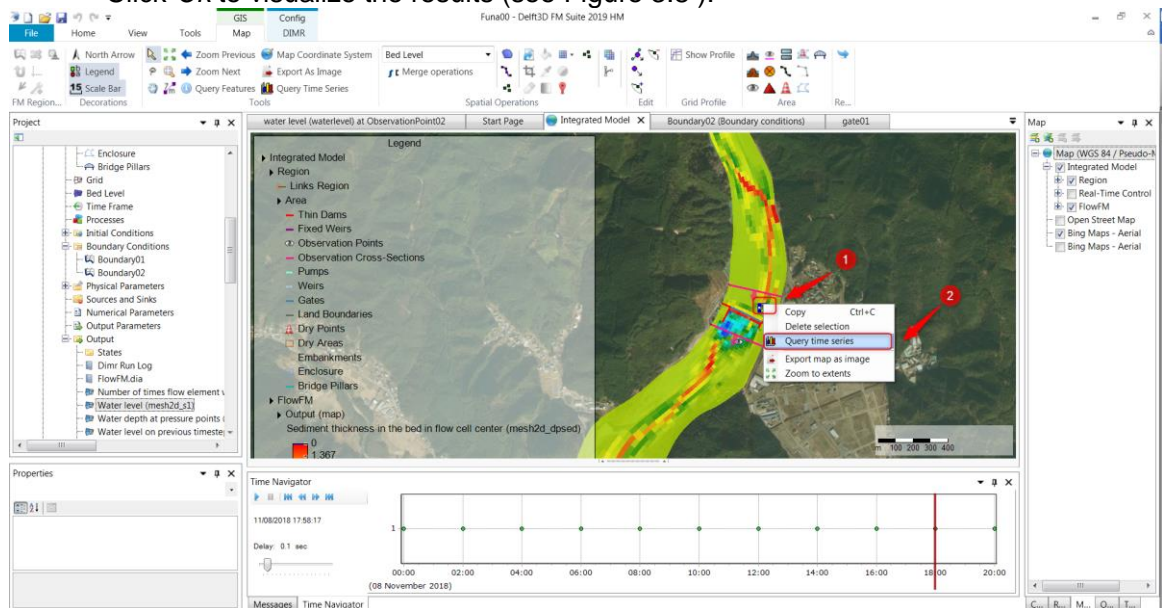

Figure 3.6 History file: check the water level upstream the dam (step A: select the observation point)
- Selecting the observation point and then the “Query time series” (see Figure 3.6).